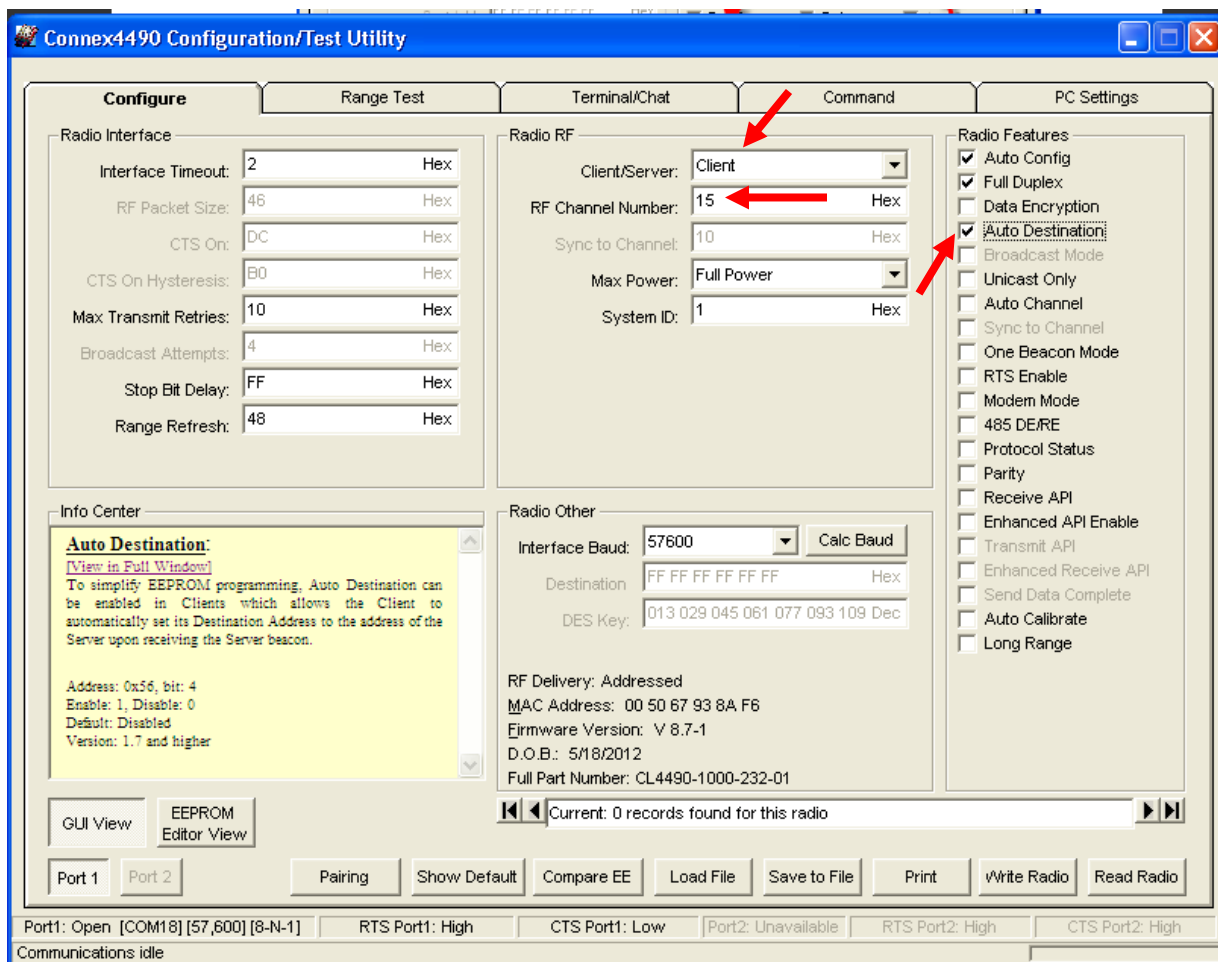

Figure 13: Client settings
- Configure the clients that will communicate with Server #2 as Clients in Auto Destination and with the same RF Channel Number as Server #2 (Figure 13). Press the **Write Radio** to write the changes to the radios EEPROM.